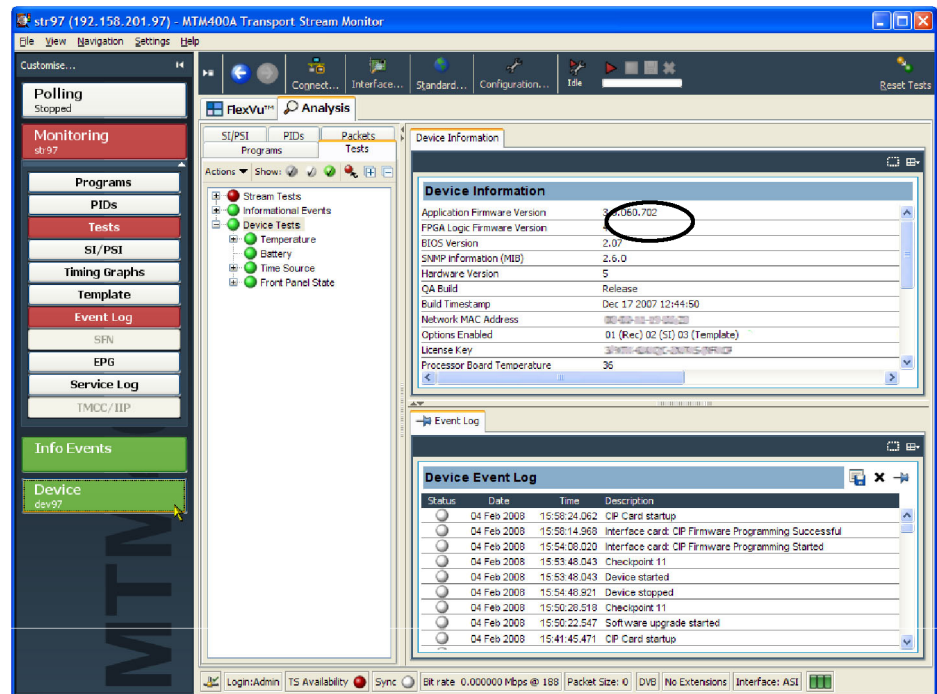

Figure 17: Device Information view (RUI v3.0 and above)
8. Click **Device** in the button bar of the RUI window to display the Device Information view. (See Figure 17.)
6. Click **Device** in the button bar of the RUI window to display the Device Information view. (See Figure 17.)
1. In the Device Event Log view, click **X** to clear the log. (See Figure 17 on page 33.)